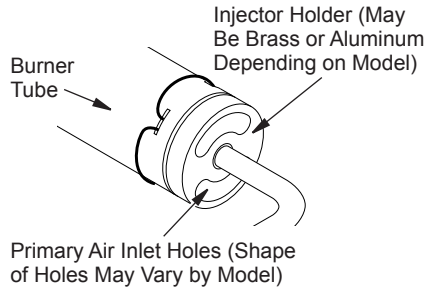

Figure 48 - Injector Holder On Outlet Burner Tube
2. Inspect burner, pilot and primary air inlet holes on injector holder for dust and dirt (see Figures 48 and 49).